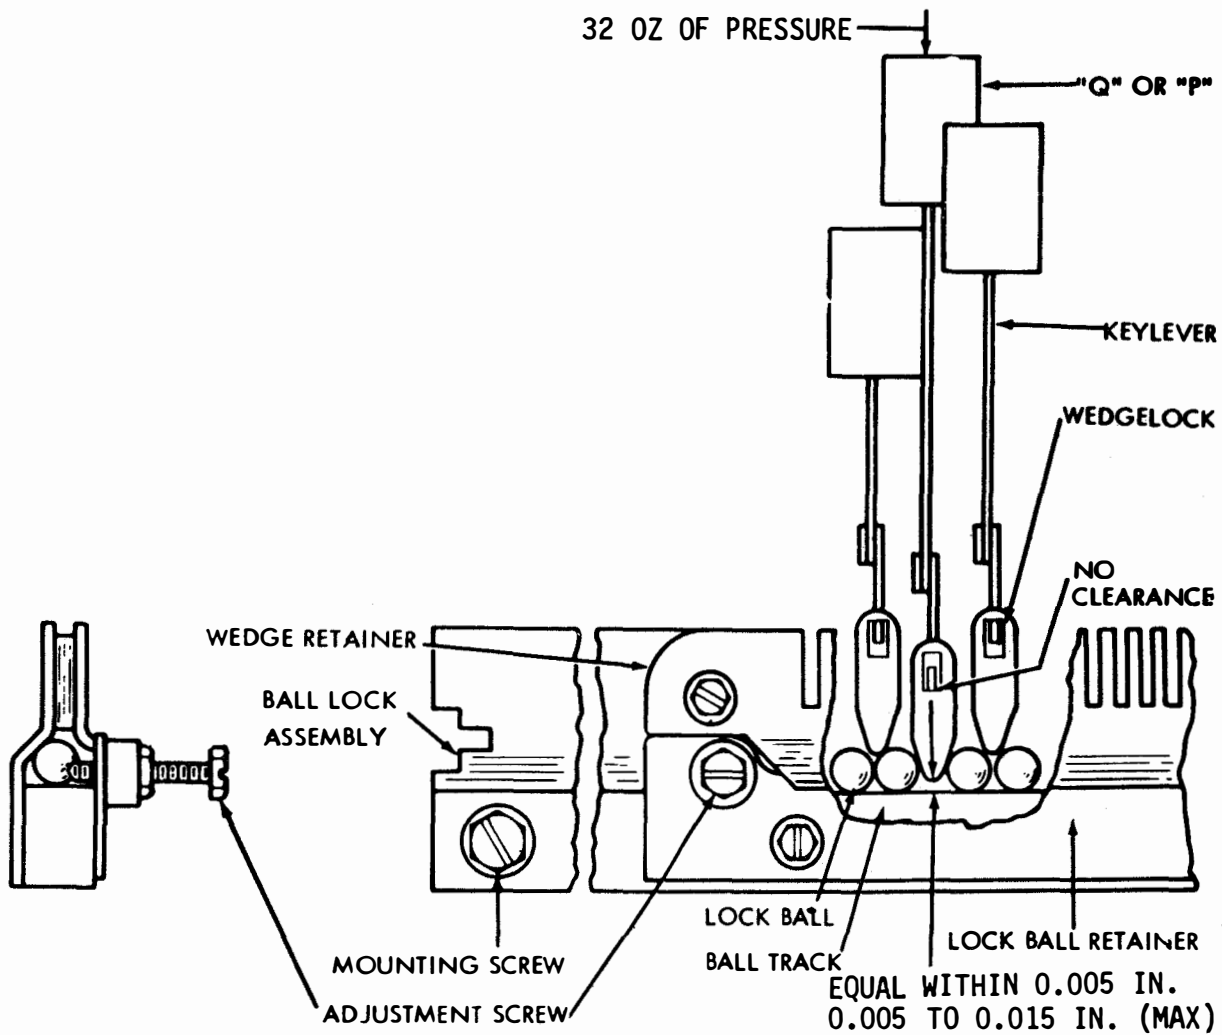
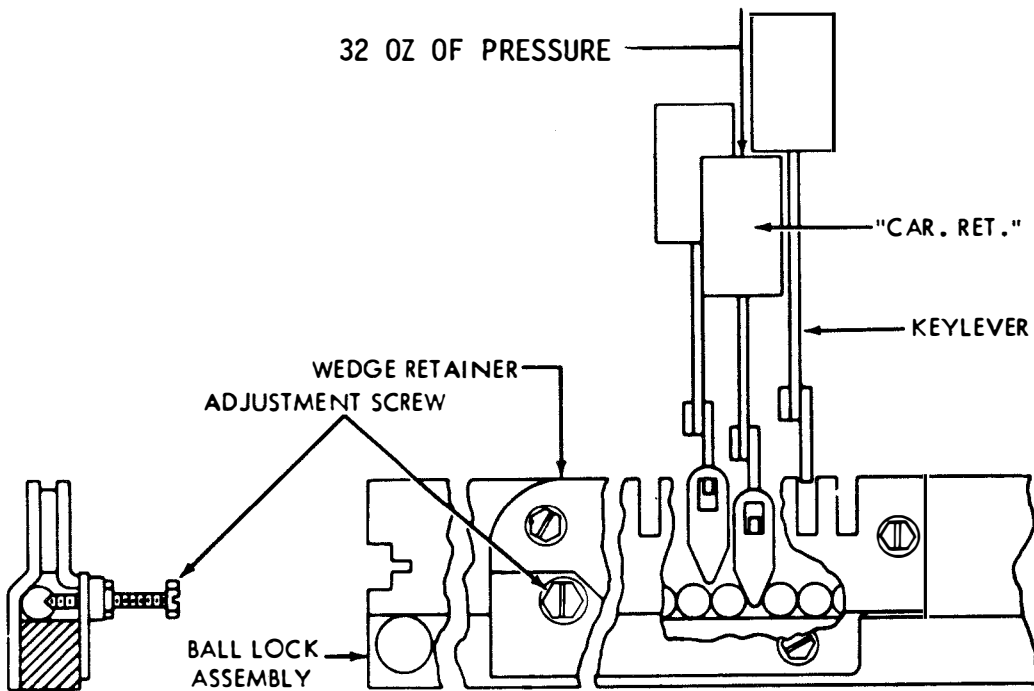
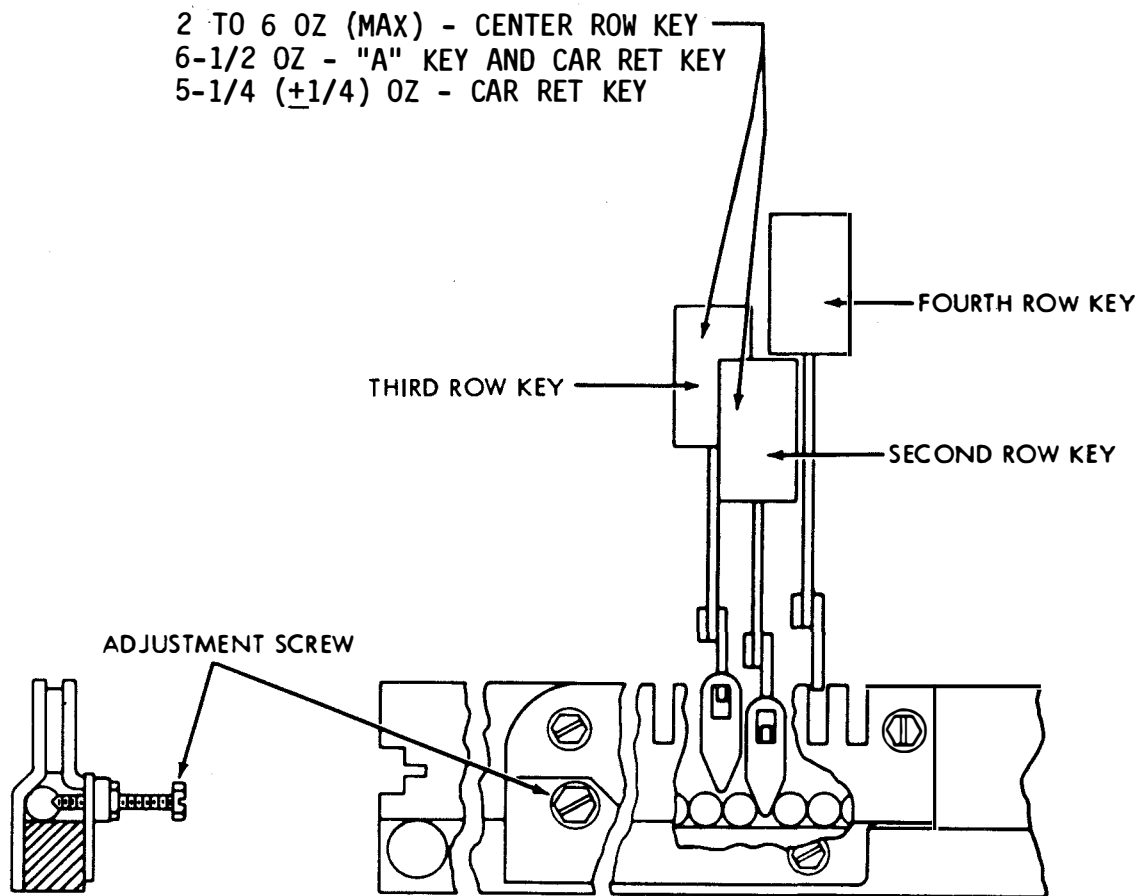

Figure 6-124. Ball Wedgelock and Ball Track Clearance (Preliminary)
Figure 6-125. Lock Ball End Play (Preliminary)
Figure 6-126. Ball Wedgelock, Ball Track, and Lock Ball End Play (All Final)
(1) Ball Wedglock and Ball Track Clearance (Preliminary). Adjust as follows:
- (a) Refer to figure 6-124.
(2) Lock Ball End Play (Preliminary). Adjust as follows:
- (a) Refer to figure 6-125.
(3) Ball Wedglock, Ball Track, and Lock Ball End Play (All Final). Adjust as follows:
- (a) Refer to figure 6-126.